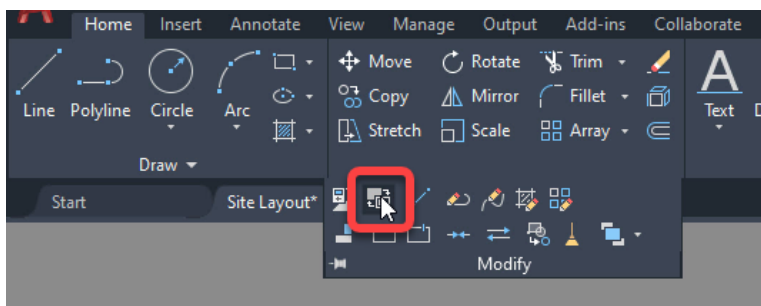

Figure 29: Choosing the Change Space (CHSPACE) command from the Ribbon.
3. Select the Rectangle, and then choose the Change Space (CHSPACE) command from the expanded Modify panel of the Home Ribbon Tab shown in Figure 29.